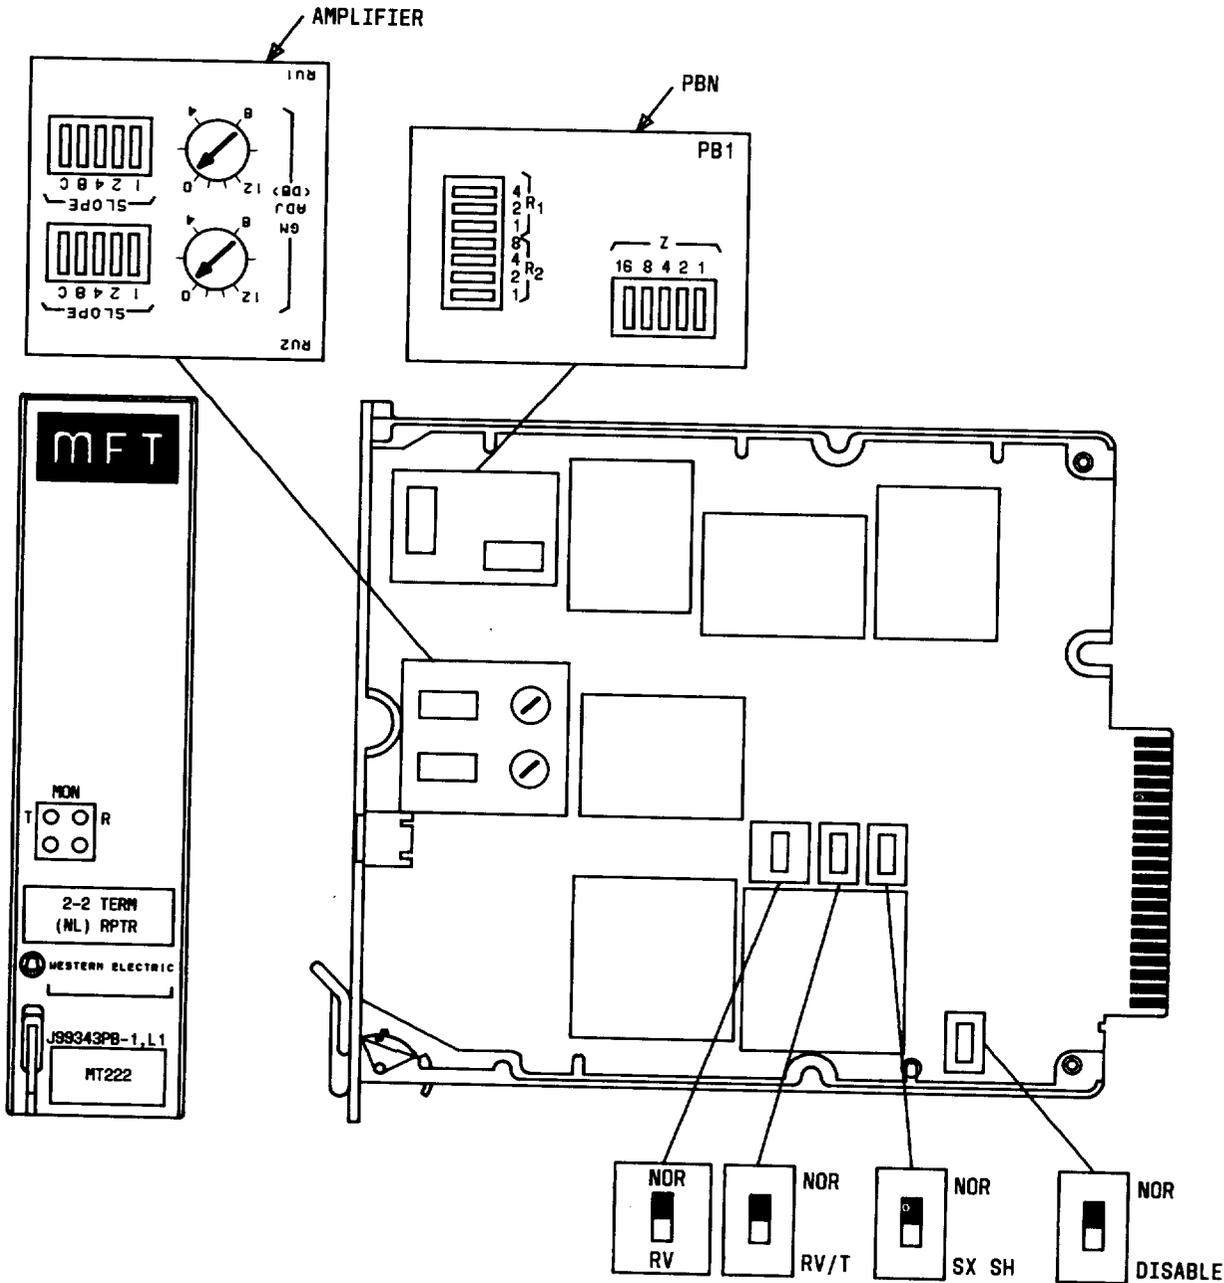
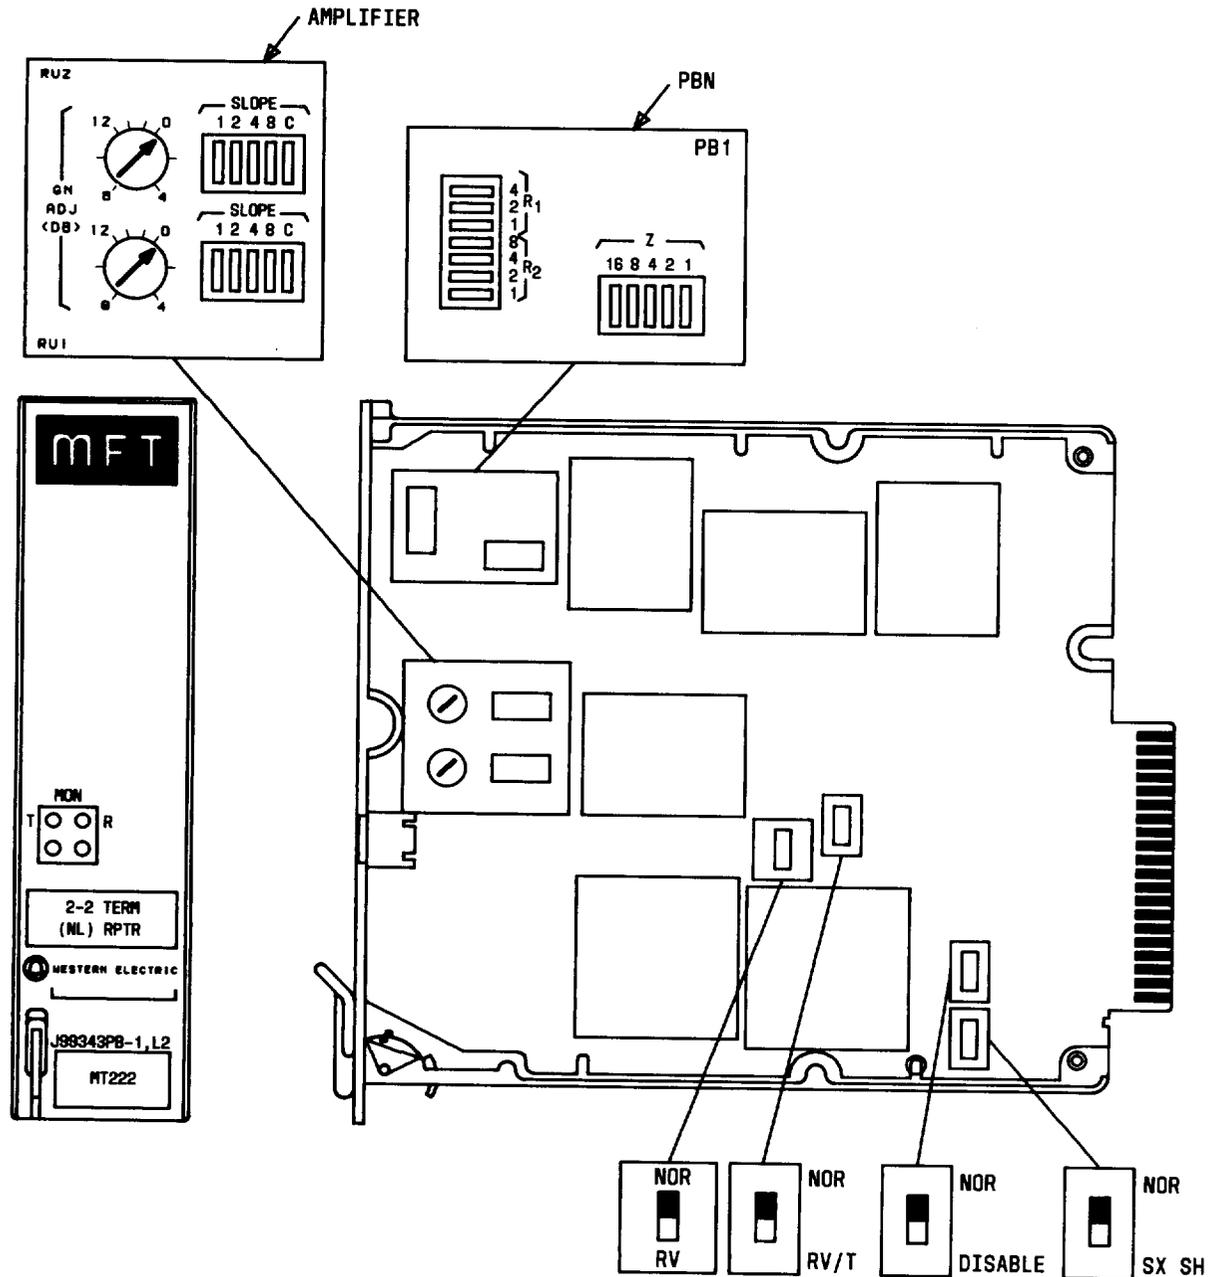
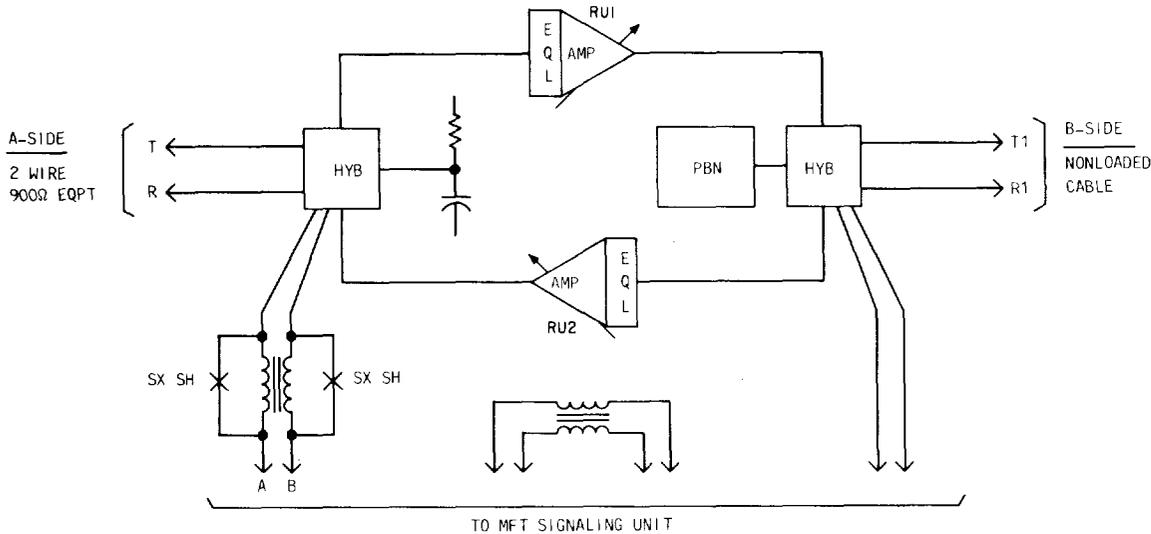

Fig. 1—Component Layout, J99343PB, L1
Fig. 2—Component Layout, J99343PB, L2
Fig. 3—Block Diagram, F99343PB, L1, L2
2.01 The J99343PB, L1 is shown in Fig. 1 and the J99343PB, L2 is shown in Fig. 2. They provide gain and equalization on 2-wire circuits between terminal equipment and nonloaded facilities. Figure 3 shows a block diagram of these units.
**2.07** In the following paragraphs, the rocker-type switches for a particular function are operated when depressed toward the respective designation. The sum of the values of the switches operated is the setting for that function. The unit controls are illustrated in Fig. 1 and 2.